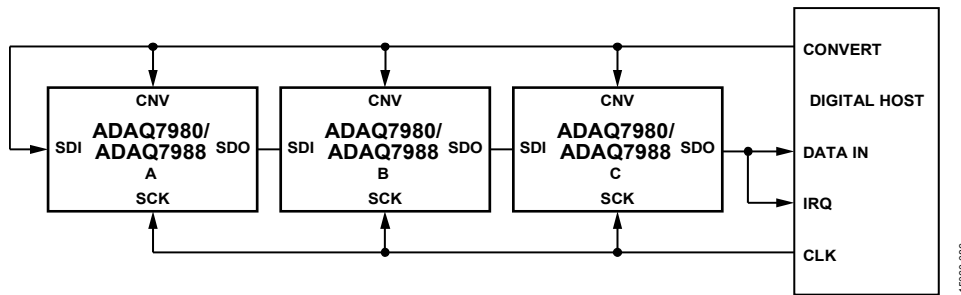
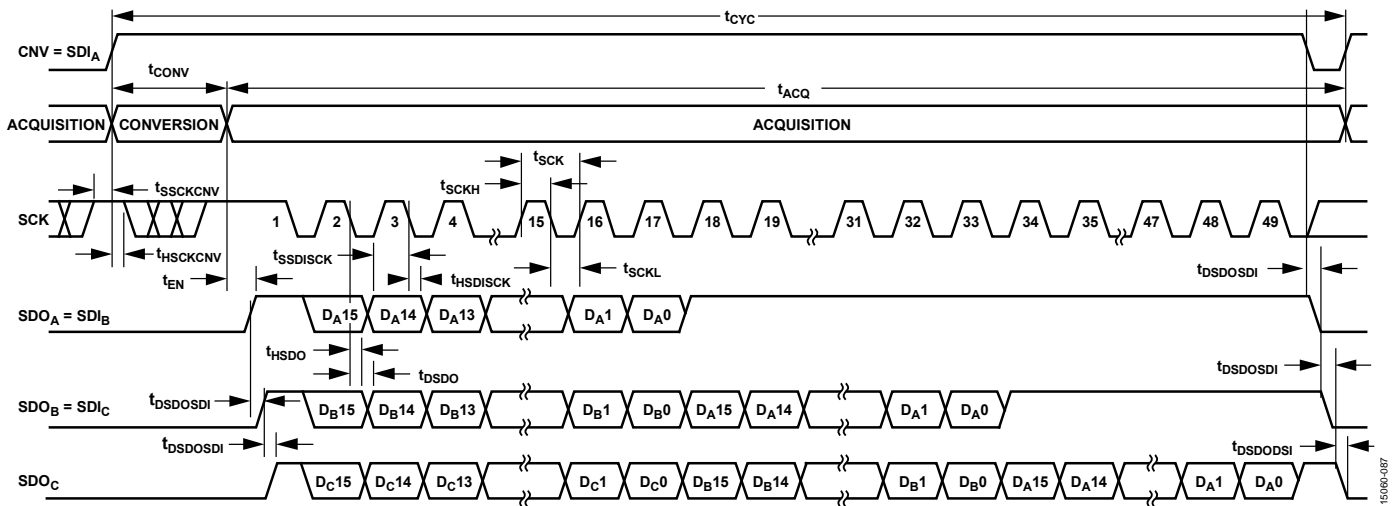

Figure 81. Chain Mode with the Busy Indicator Connection Diagram
Figure 82. Chain Mode with Busy Indicator Serial Interface Timing
- In chain mode if SCK is high during the CNV rising edge (see Figure 82).
Figure 81 shows a connection diagram example using three ADAQ7980/ADAQ7988 devices, and Figure 82 shows the corresponding timing.
readback. When all ADCs in the chain complete their conversions, drive the SDO pin of the ADC closest to the digital host (see the ADAQ7980/ADAQ7988 ADC labeled C in Figure 81) high. Use this transition on SDO as a busy indicator to trigger the data readback controlled by the digital host. The ADAQ7980/ADAQ7988 then enter the acquisition phase and power down. The data bits stored in the internal shift register clock out, MSB first, by subsequent SCK falling edges. For each ADC, SDI feeds the input of the internal shift register and clocks out by the SCK falling edge. Each ADC in the chain outputs its data MSB first, and  $16 \times N + 1$  clocks are required to read back the N ADCs. Although the rising edge can capture the data, a digital host using the SCK falling edge allows a faster reading rate and, consequently, more ADAQ7980/ADAQ7988 devices in the chain, if the digital host has an acceptable hold time.